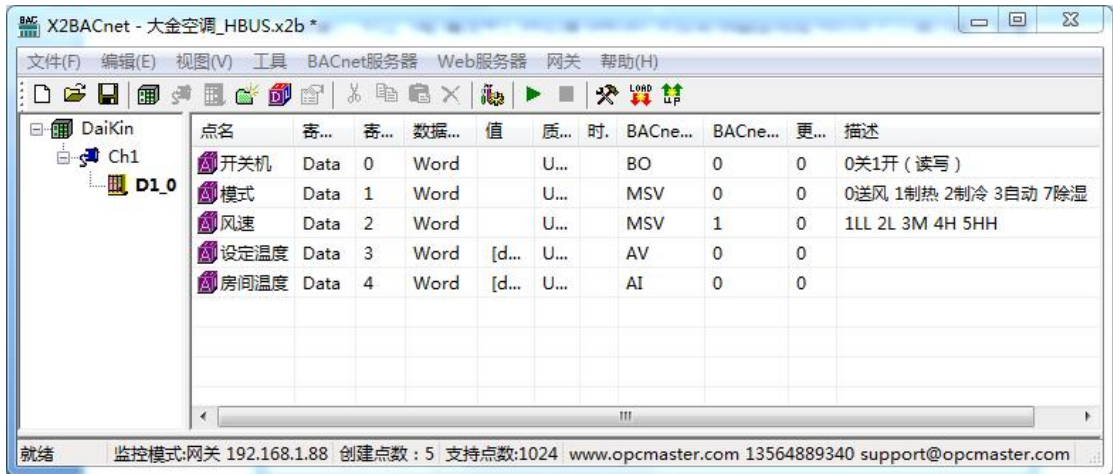

Figure 2-17-7 Tag list
Click the menu **Edit** and select the **New Tag...** or click the button  **New Tag** in the toolbar. In the popup diag “**Tag Properties**”, set the **Collection** and **Transfer(BACnet Server)** parameters, as the following Figure 2-17-7 shows.
- **Date Type:** Boolean\Word\Short\Dword\Long\Float and Double ,as the following Figure 2-17-7 shows.
- **Mask Value:** Check single box “Mask Value” to pick up a bit from 0 to 15 of some register if necessary,as the following Figure 2-17-7 shows.
Note: In the above Tag attributes, the base address of the BACnet slave register on the forwarding end can be allocated starting from 0. The label establishment is completed, as shown in Figure 2-17-7.